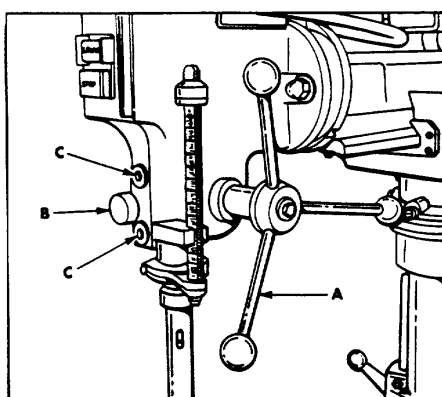

Figure 8
The spindle is raised or lowered by means of the three spoke hand lever (A) fig. 8. The quill can be locked at any desired point in its travel, by tightening the quill locking knob (B) fig. 8. This is an especially desirable feature for set-up of tooling for production type operations.
1. Make sure the quill locking knob (B) fig. 8, is loose.
2. Remove two screws and washers (C) fig. 8.
6. After proper adjustment has been made, replaced screws and washers (C) fig. 8.